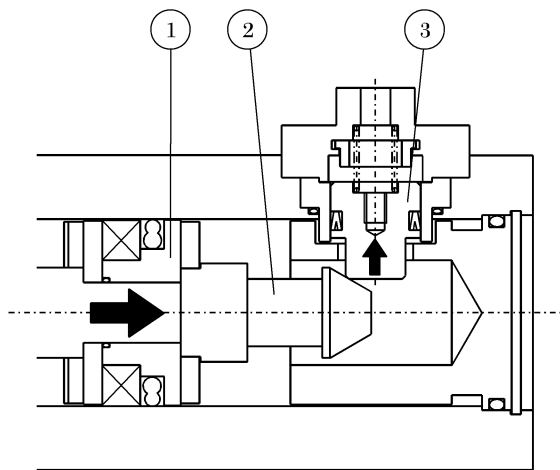

Fig.1
- (a) Stopper piston ③ is pushed up by the slant of sleeve tip ② as the piston ① of cylinder approaches to its stroke end. (Fig. 1)